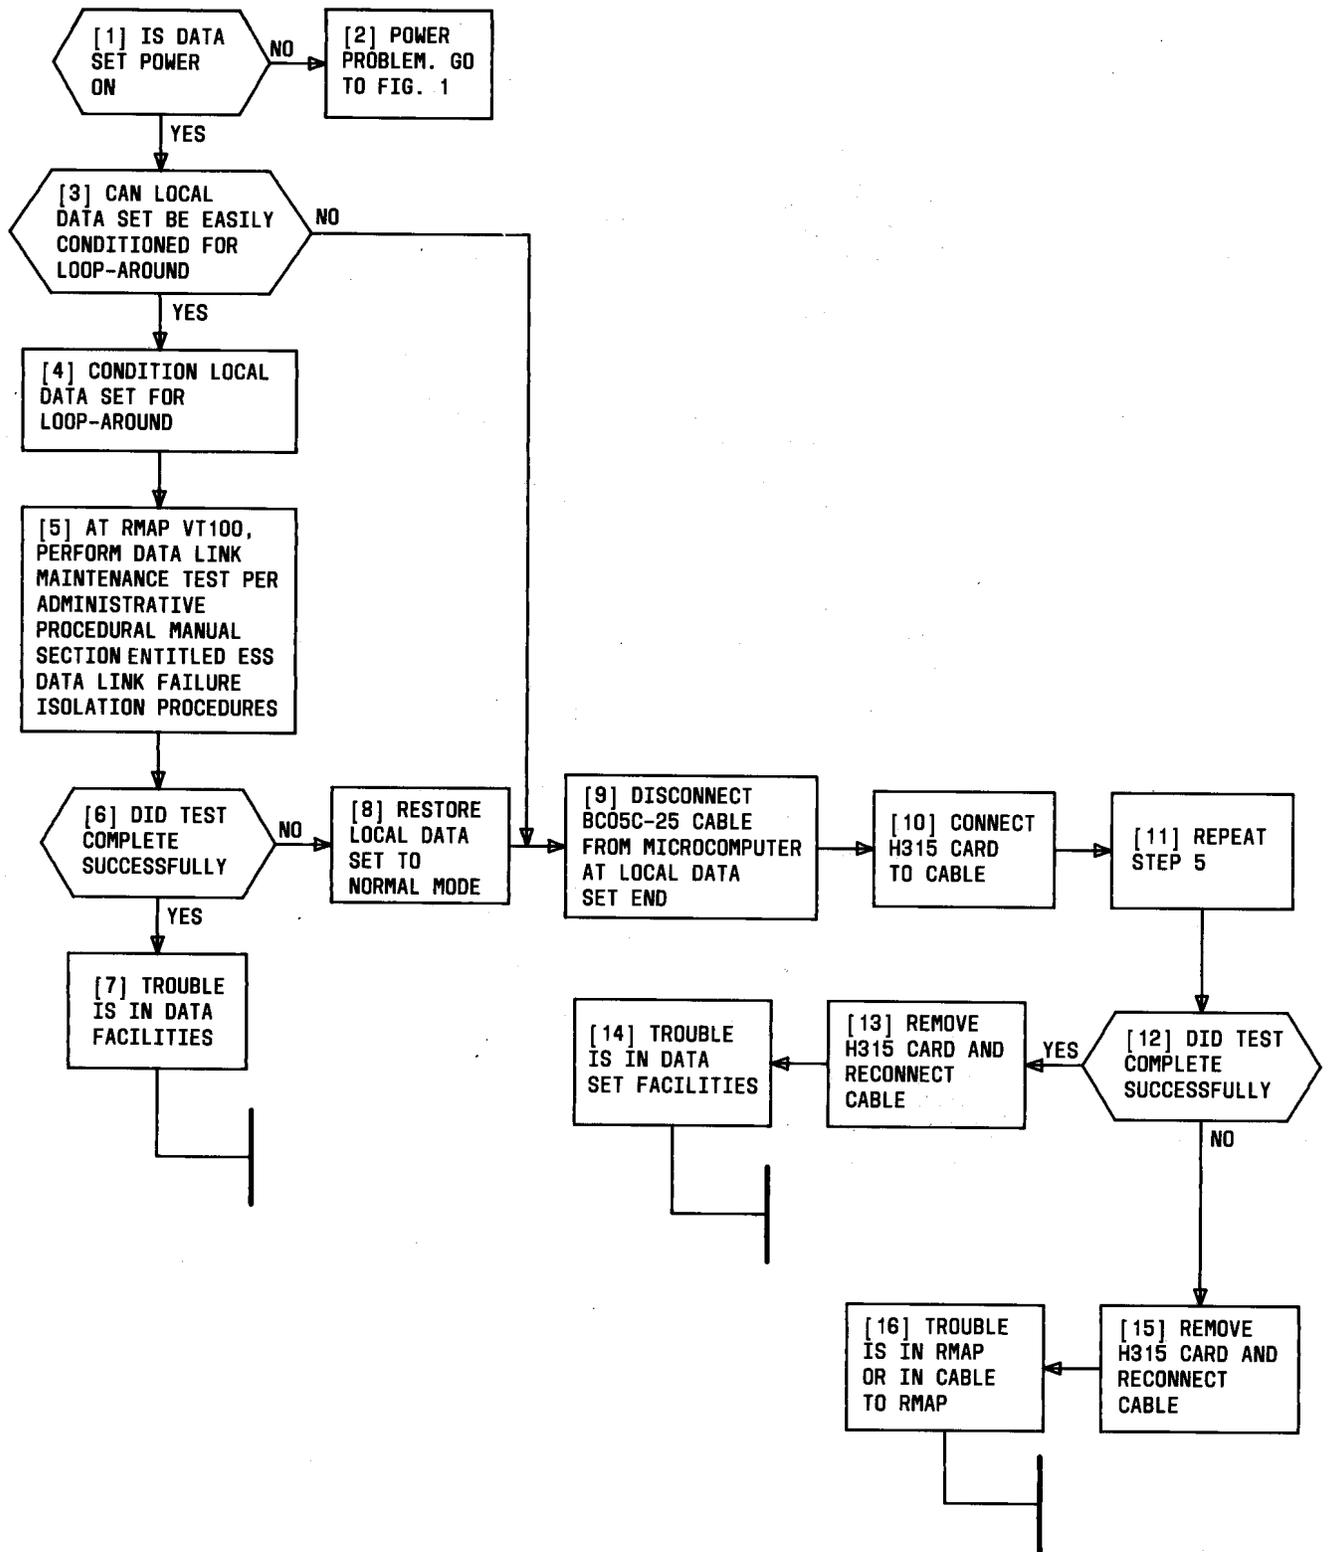

Fig. 2—Procedure for Isolating Data Link Failures
**4.04** Procedures for isolating data link failures are shown in Fig. 2. These procedures isolate failures in the RMAP (ie, from the RMAP to the end of the BC05C-25 cable) from failures in the provided data facilities (ie, data set and facilities from the data set to the ESS office).